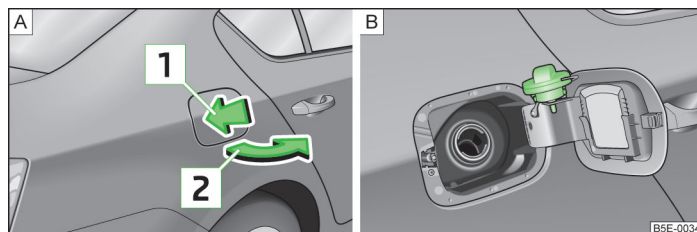

Fig. 171 Open fuel filler flap/fuel filler flap with cap unscrewed
The correct grades of fuel for your vehicle are stated on a sticker affixed to the inside of the fuel filler flap » Fig. 171 on page 191 - [B].
- Press on the fuel filler flap in the direction of the arrow [1] » Fig. 171.
- Unscrew the filler cap by turning it to the left and place the cap into the bore of the fuel filler flap » Fig. 171 - [B].